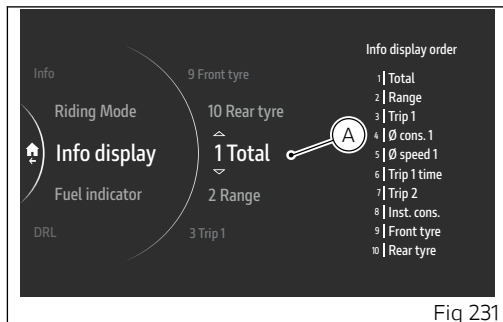

Fig 231
- Two arrows (A, Fig 231), are displayed above and below the position number indicating that it can be changed from 1 to 10 (in this example "3") using the corresponding joystick positions ▲ ▼.